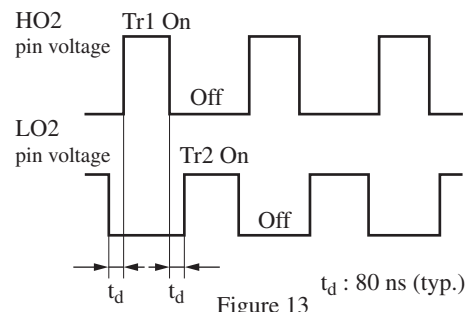

Figure 13
- The PWM output voltage is supplied from HO2 pin (pin 22) and LO2 pin (pin 19) to drive FET Tr1 and Tr2 respectively. Both pin voltages are as shown in figure 13.
- The PMW output voltages given from HO2 pin (pin 22) and LO2 pin (pin 19) are provided with the quiescent period  $t_d$  in which both become off state as shown in figure 13. This is provided for the prevention of simultaneous turning On of Tr1 and Tr2.